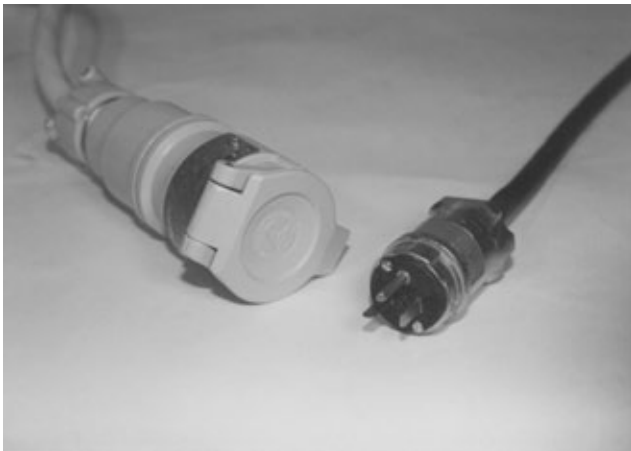

FIGURE 3
3) The Blower power cord is to be connected only to a properly grounded, NEMA 5-20R receptacle meeting the National Electric Code® requirements for use in the applicable hazardous location. Refer to current revisions of National Electric Code Articles 501-11, 501-12, 502-12, 502-13, 503-10 and 503-11 for specific information. FIGURE 3.